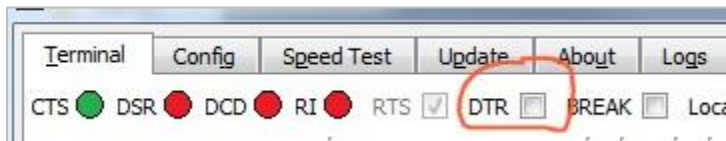

Figure 1: Uncheck DTR box
1. In UWTerminal, de-assert DTR by unchecking the DTR box as shown in Figure 1.